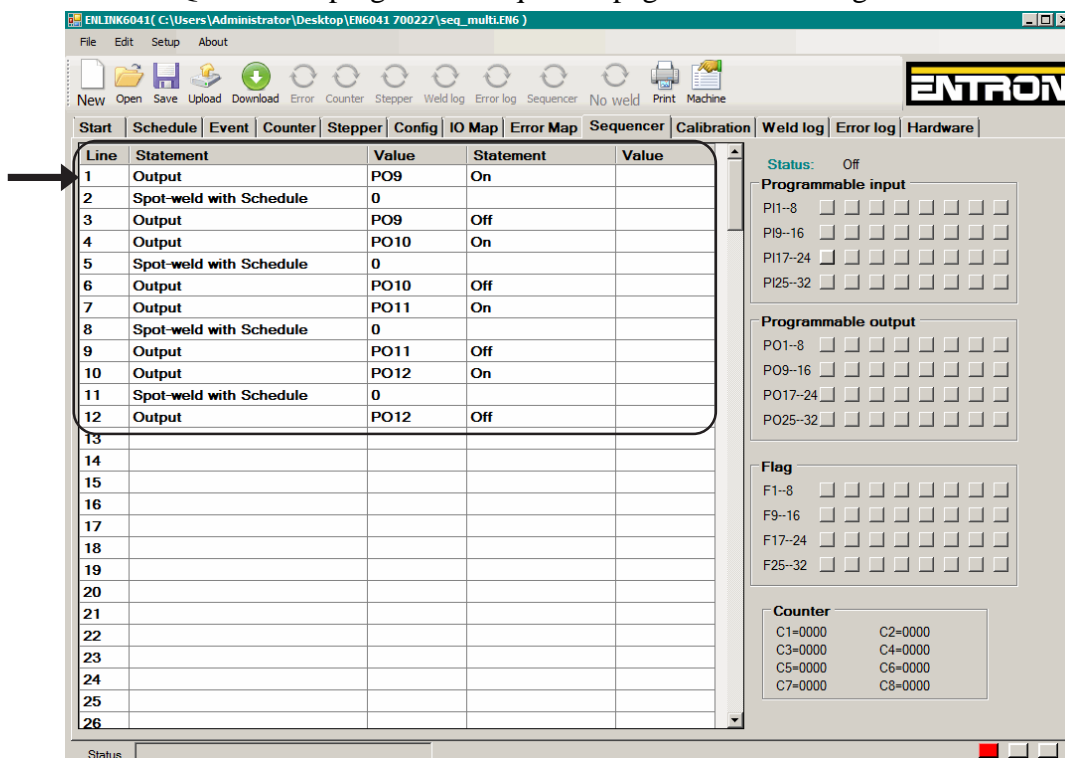

Figure 9-32. Sequencer page
D. Enter SEQUENCER program on Sequencer page as shown in Figure 9-32.